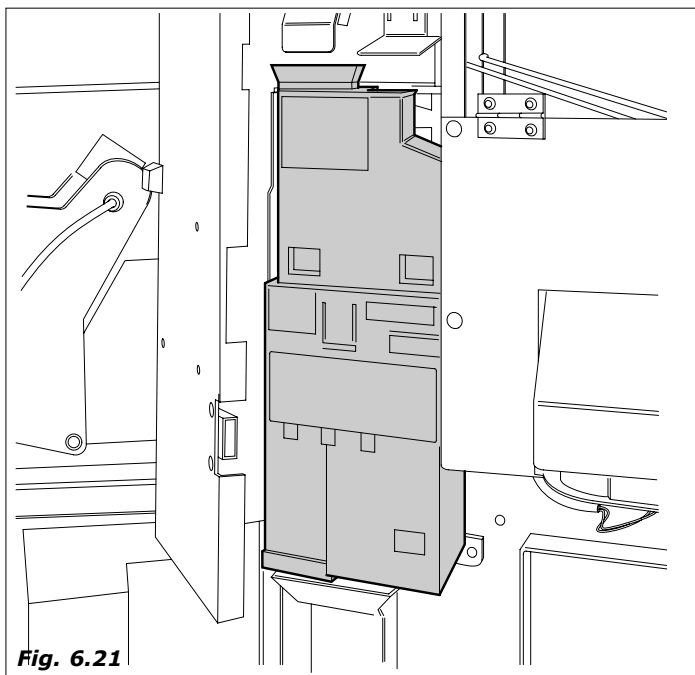

Fig. 6.21
- To install the payment system partially unscrew the three screws (Fig. 6.21) mount the token slot without selector.